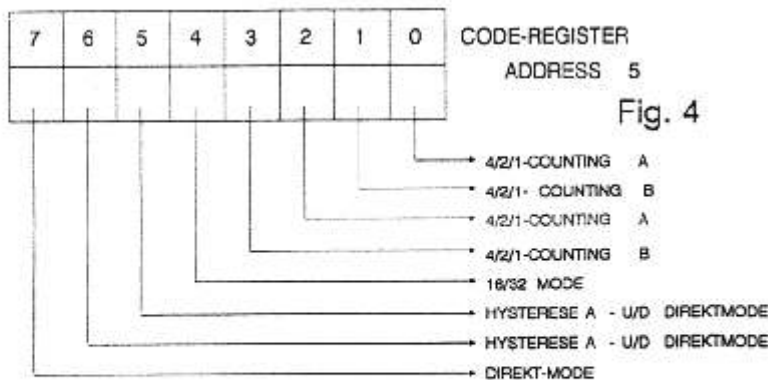

Fig. 4
Before using the counter card the counter ICs must set to the desired operating mode. This is done by writing the appropriate code word into the code register (5). The mode definition format is shown in figure 4. For the most used mode, 32-bit up/down counting and quadrature decoder function the code word is 00H. Bit 0 and bit 2 are used for programming 1/2/3/4-fold counting. Hysteresis of one digit is enabled with bit 5 = 1. Bit 4 = 1 enables 2 x 16-bit counter.